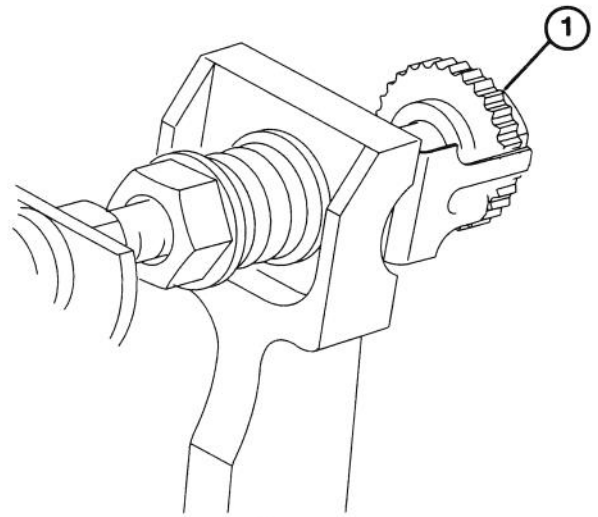

Figure 1
## ADJUSTING THE BEDKNIFE TO THE REEL (Fig. 1–3)
1. A 19 mm (3/4 inch) wrench will be needed to rotate the bedknife adjustment knob. Each notch on the knob will move the bedknife .0005 inches (.013 mm) (Fig. 1).